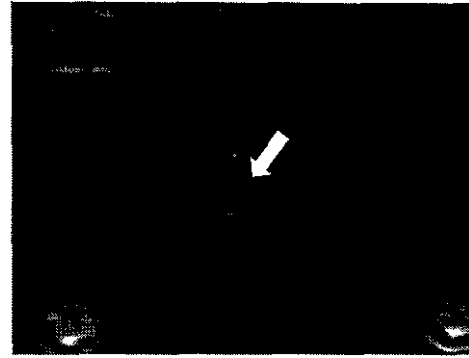

figure 11
1. When oil is cold, remove the top plug (figure 11). Make sure oil is level with the plug hole.